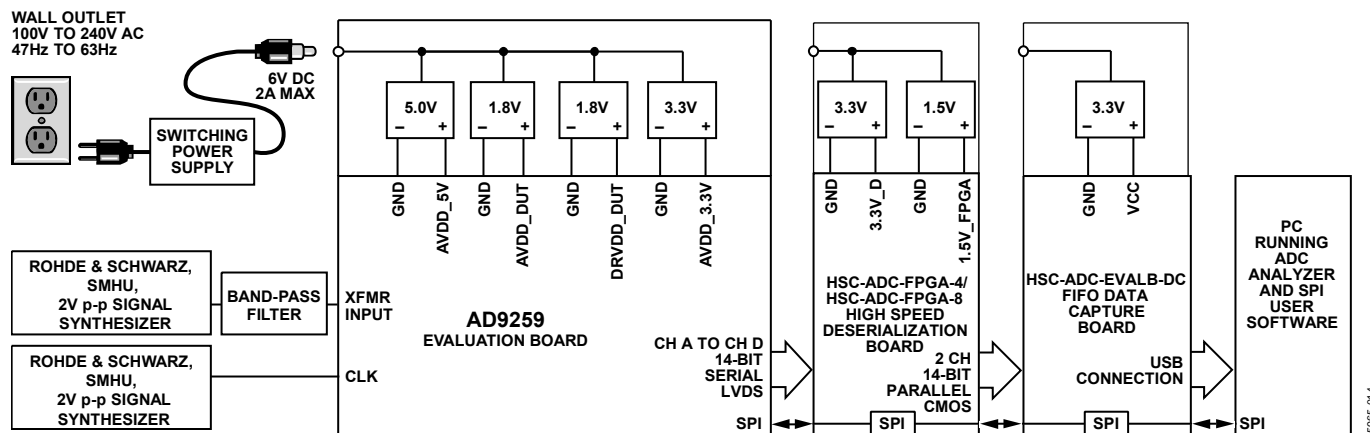
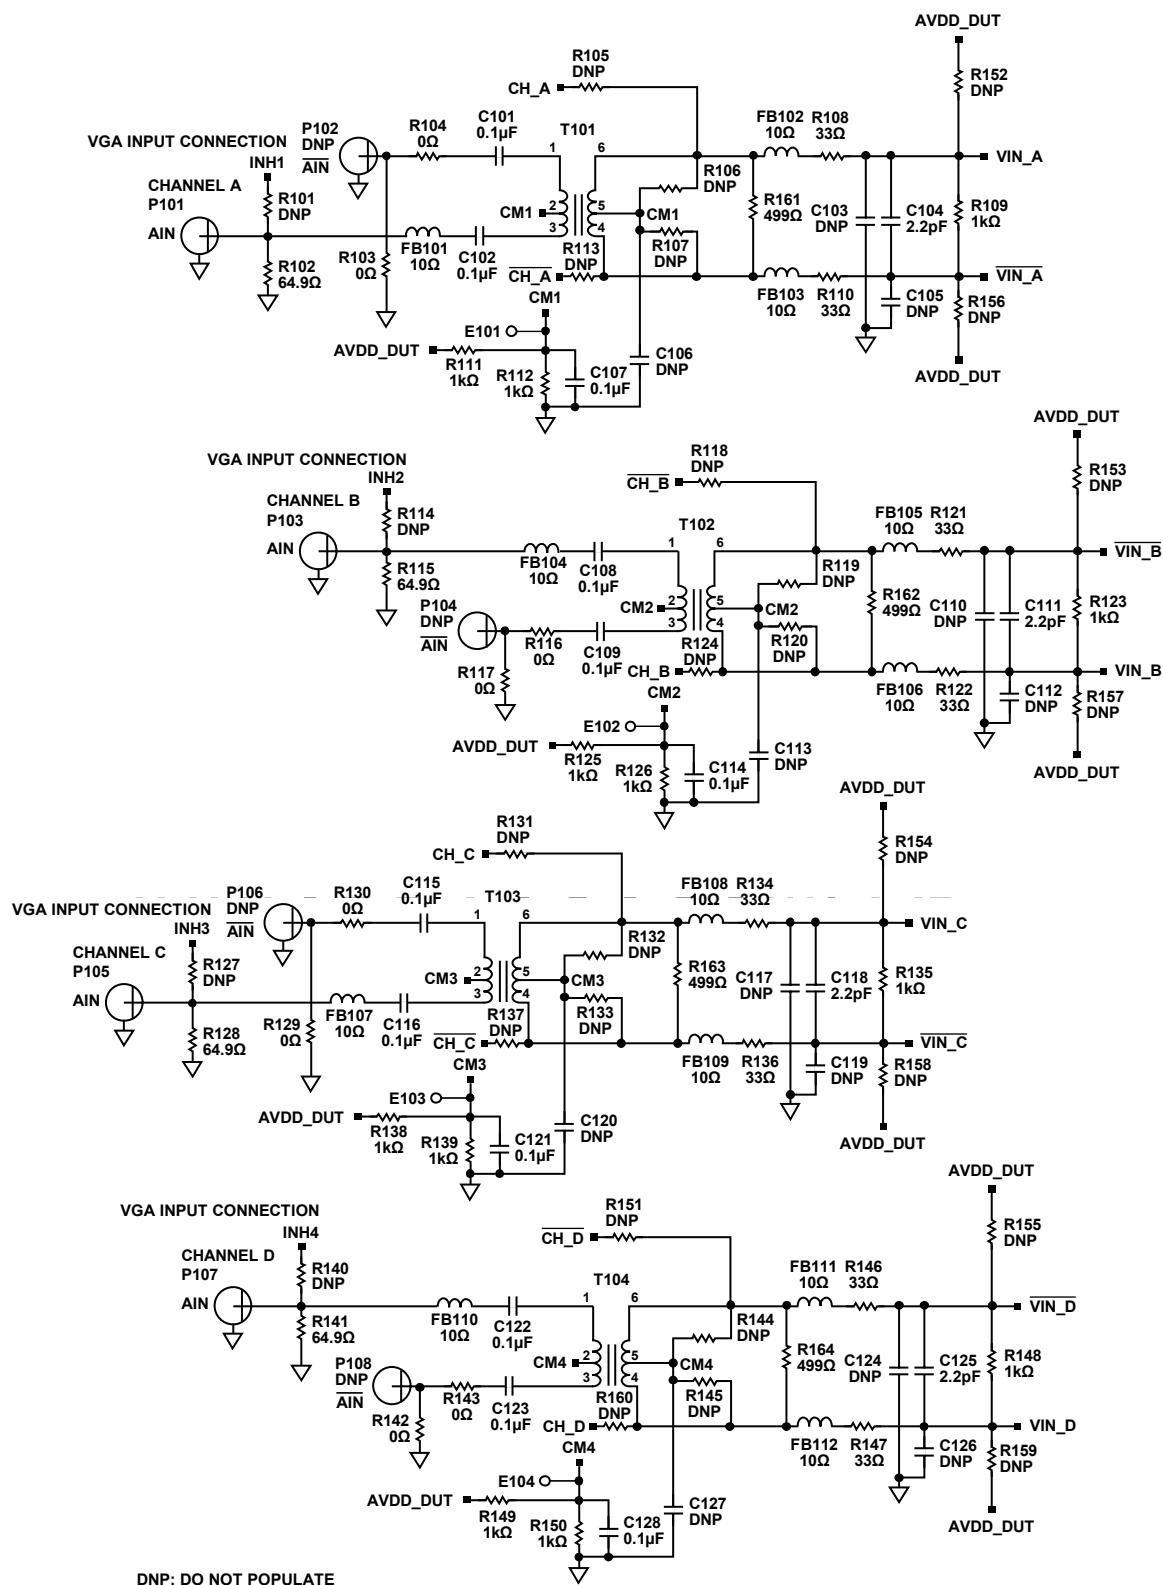

Figure 60. Evaluation Board Connection
Figure 62. Evaluation Board Schematic, DUT Analog Inputs
The AD9259 evaluation board provides all of the support circuitry required to operate the ADC in its various modes and configurations. The converter can be driven differentially using a transformer (default) or a AD8332 driver. The ADC can also be driven in a single-ended fashion. Separate power pins are provided to isolate the DUT from the drive circuitry of the AD8332. Each input configuration can be selected by changing the connection of various jumpers (see Figure 62 to Figure 66). Figure 60 shows the typical bench characterization setup used to evaluate the ac performance of the AD9259. It is critical that the signal sources used for the analog input and clock have very low phase noise (<1 ps rms jitter) to realize the optimum performance of the converter. Proper filtering of the analog input signal to remove harmonics and lower the integrated or broadband noise at the input is also necessary to achieve the specified noise performance.
See Figure 62 to Figure 70 for the complete schematics and layout diagrams demonstrating the routing and grounding techniques that should be applied at the system level.
- **D + x, D - x:** If an alternative data capture method to the setup shown in Figure 60 is used, optional receiver terminations, R206 to R211, can be installed next to the high speed back-plane connector.